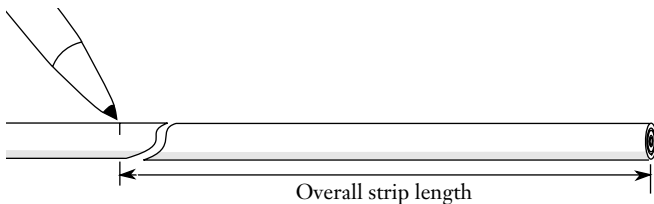

Figure 2
**4.1** Refer to the documentation with the product you are installing to obtain the proper sheath removal lengths. Use a measuring tape and a felt tip pen to measure and mark the overall strip length (Figure 2).